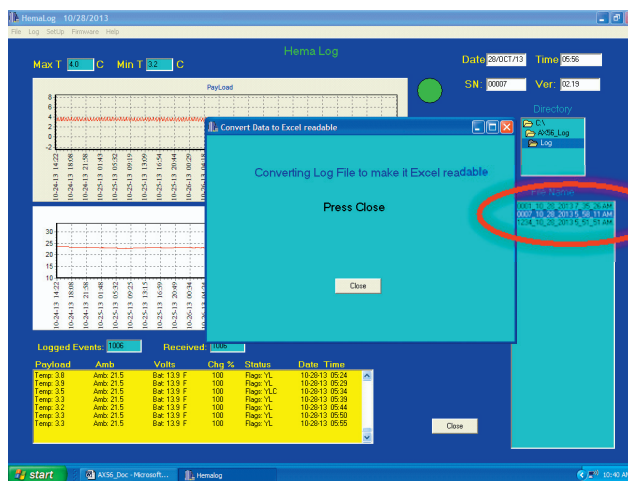

Figure 47. Example of a Make Excel Screen
- **Make Excel** screen (Figure 47) converts data into a downloadable *Excel* spreadsheet.
- Select the log file to convert from the **File Name** box (Figure 47).